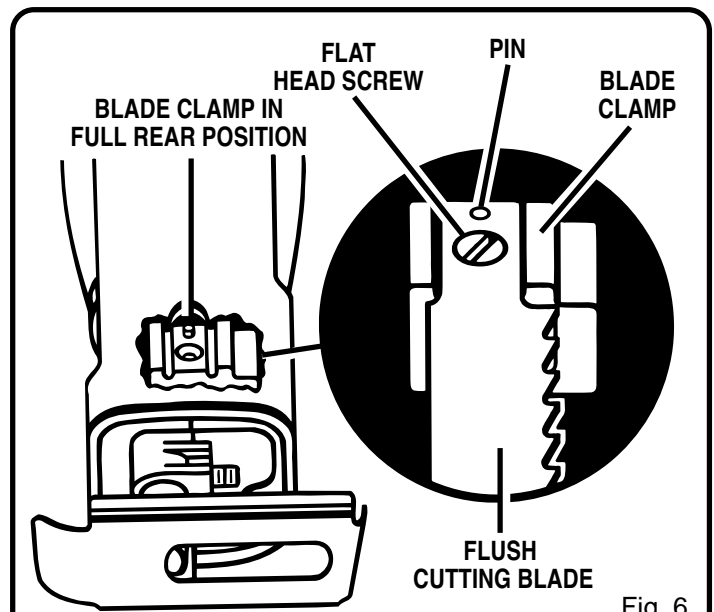

Fig. 6
See Figures 6 and 7.
2. Depress and release the switch trigger of your saw in quick, short starts and stops until blade clamp is in its full rear position. See Figure 6.
9. Insert flush cutting blade on top of blade clamp as shown in figure 6.
11. Using the flat head screw provided, secure blade to blade clamp. See Figure 6.